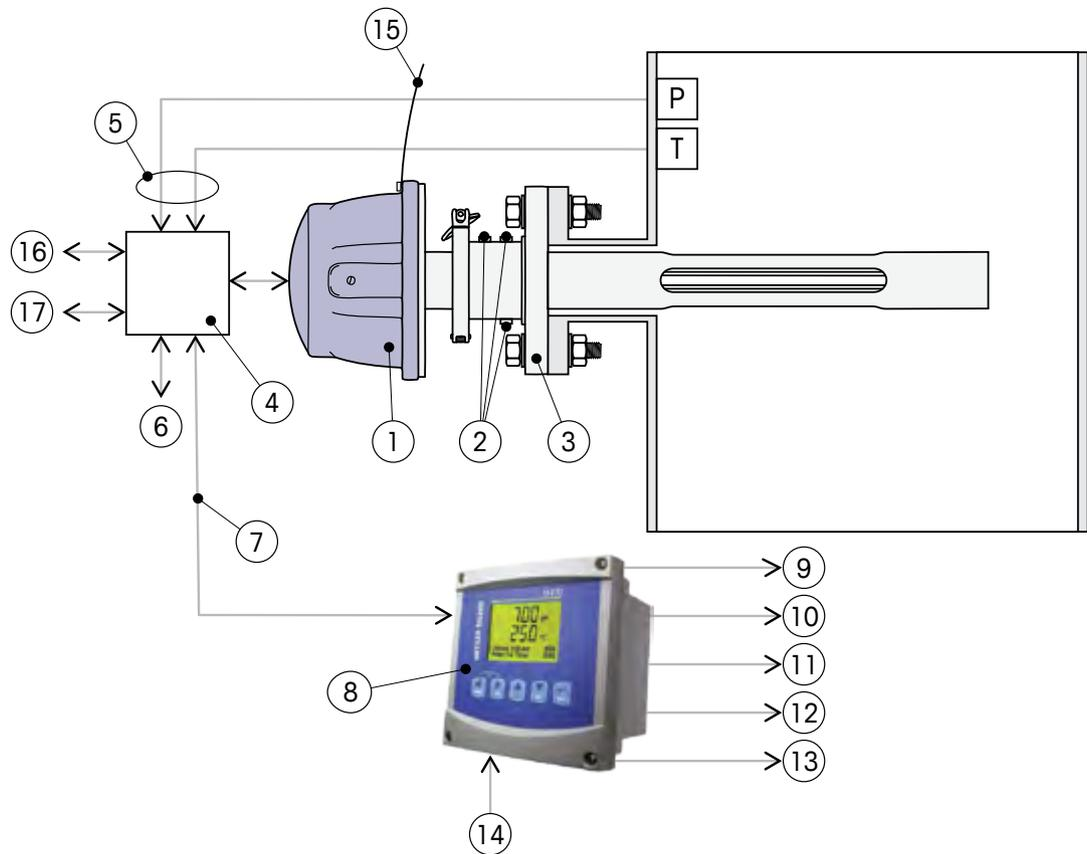

Figure 2 Setup of GPro™ 500
In standard setup, the GPro™ 500 is connected to the M400 that provides a convenient user interface for setting up the mandatory application-specific analyzer parameters during commissioning, for verification and calibration of the system, and for using the i/o capabilities built into the M400, i.e. 4x 4...20 mA active analog outputs and 6 relays. Alternatively, if GPro™ 500 is supplied as an additional output version. This version provides 2 x 4...20 mA passive analog outputs directly from the sensor head and offers a full Ex-d solution. In this case a M400 transmitter is not supplied and a M400 should not be connected to the sensor head. To configure the optional direct analog outputs, it is necessary to use the MT-TDL software Suite to configure the GPro™ 500 during commissioning (using the Ethernet connection to the GPro™ 500, see item 6 on see Figure 2 (Setup of GPro™ 500) on page no 19). For more information on the MT-TDL Software, please refer to chapter see 6 (Service) on page no 58.